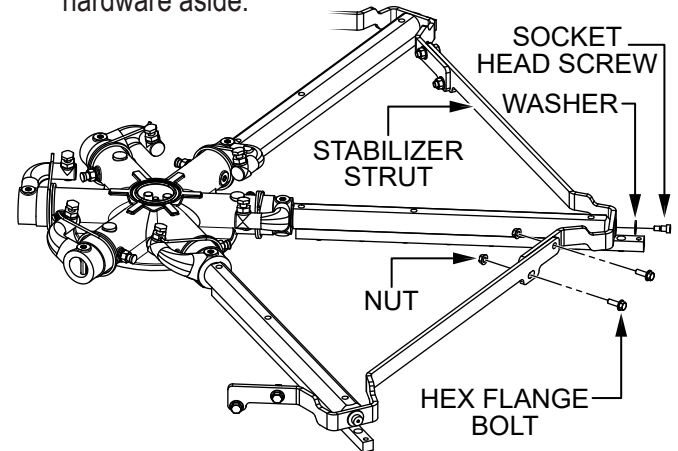

Figure 51. Stabilizer Ring Removal
- Remove the hardware securing the **stabilizer struts** to the trowel arms (Figure 51). Set the struts and hardware aside.